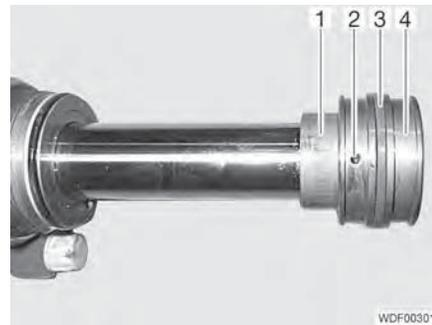

Fig. 105 Securing the piston
- Remove the annular seal (Fig. 105,3) and the O-ring underneath.
- Unscrew the stud screw (Fig. 105,2).
- Unscrew the piston (Fig. 105,4) with a face spanner.
- Remove the spacer (Fig. 105,1) with the O-ring.
- Place the annular seal (Fig. 105,3) over the O-ring.
- Carefully push the spacer (Fig. 105,1) with the O-ring onto the piston rod.
- Screw and tighten the piston (Fig. 105,4) onto the piston rod.
- Coat the stud screw (Fig. 105,2) with locking agent and screw it in.